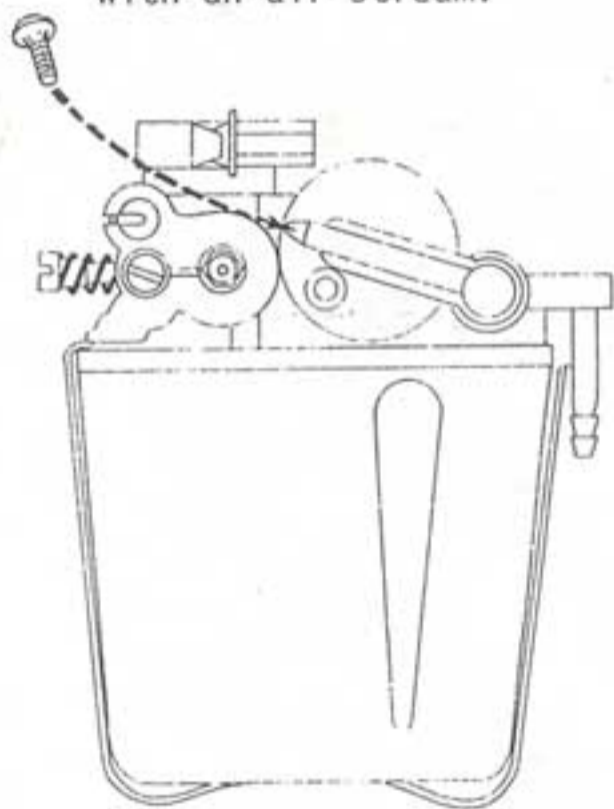

Fig. 1
- Loosen the screw (using a small Philips head screwdriver) or the plastic cap (fig. 1 and 2).